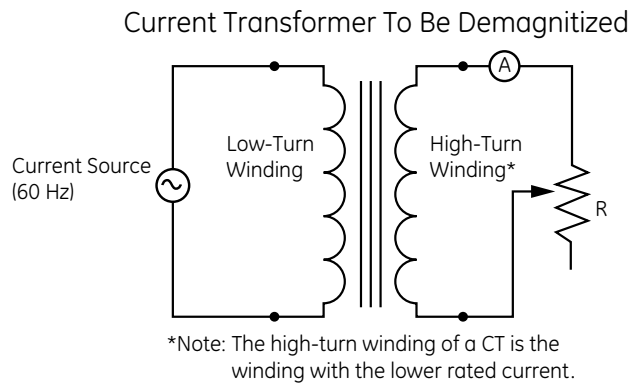

Figure 7 - Circuit for demagnetizing current transformers
One method is to connect the transformer in the test circuit as shown in Figure 7, below. Pass rated current through the low-turn winding (usually the primary). Increase the resistance (R) in the high-turn winding (usually the secondary) circuit until the transformer core is saturated; then, slowly reduce resistance to zero and disconnect the current source. Saturation of the core is indicated by a reduction of current in the high-turn winding circuit.